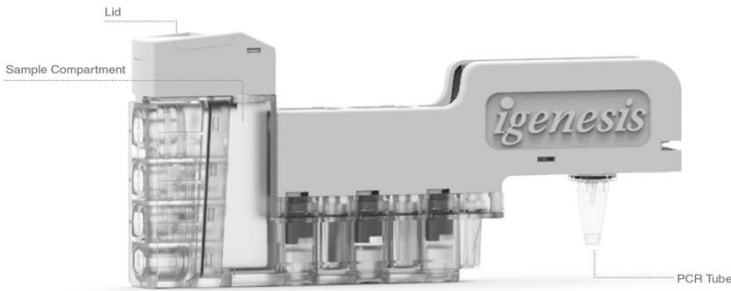

Figure 1. CV/DV/ZV iCassette (Lateral View)
1.3 Open the lid of the iCassette, and pipette 200 μL of sample or controls to the CV/DV/ZV iCassette sample compartment as shown in Figure 1. slowly, close the lid tightly.(Note: After the sample is added to the iCassette, the test needs to start running within 30 minutes)